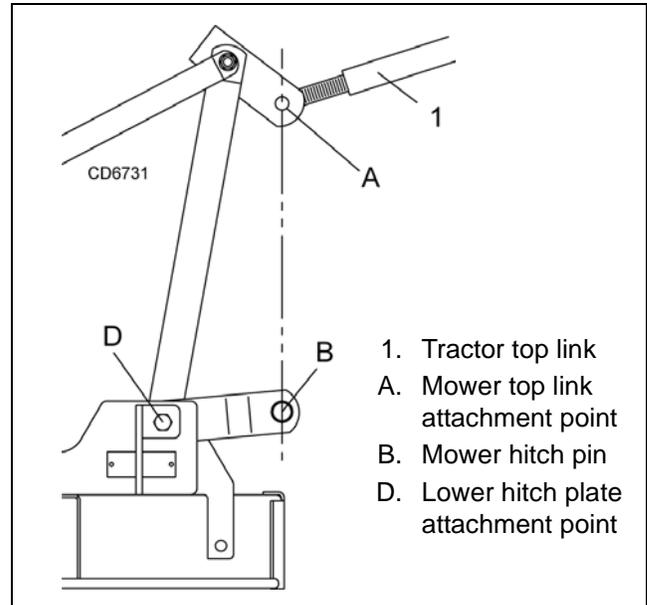

Figure 6. Top Link Adjustment
The mower has three lower hitch plate attachment points (D), Figure 6. It may be necessary to change the mower hitch plate attachment point to obtain proper tire clearance and/or lift height.